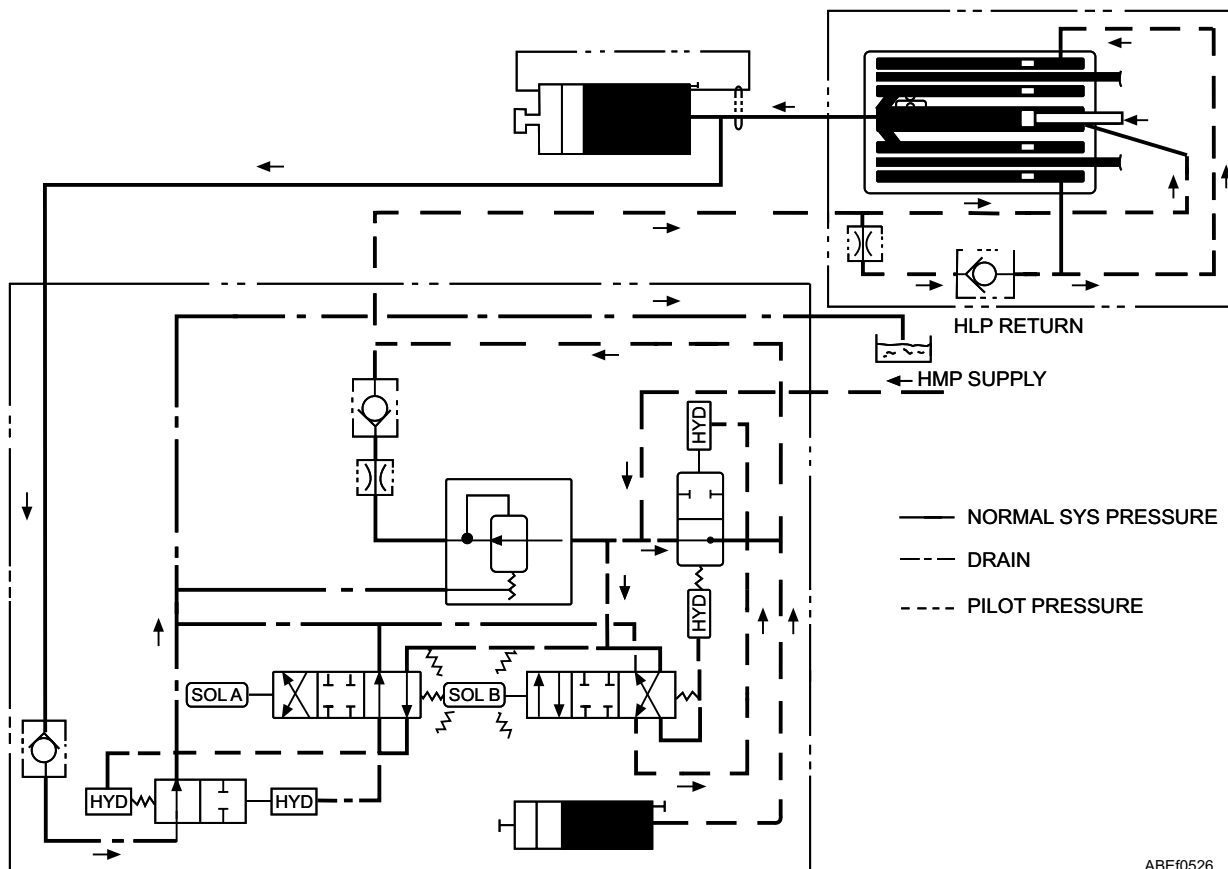

Figure 5-26.—Abort aircraft-buffing aft cycle.
When the BUFFER AFT pushbutton is pressed, the buffer aft solenoid (B) is energized (fig. 5-26), shifting the buffer aft solenoid valve, allowing medium-pressure hydraulic fluid to shift the piston of the flow control valve. Medium-pressure hydraulic fluid flows through the flow control valve to the buffer cylinder